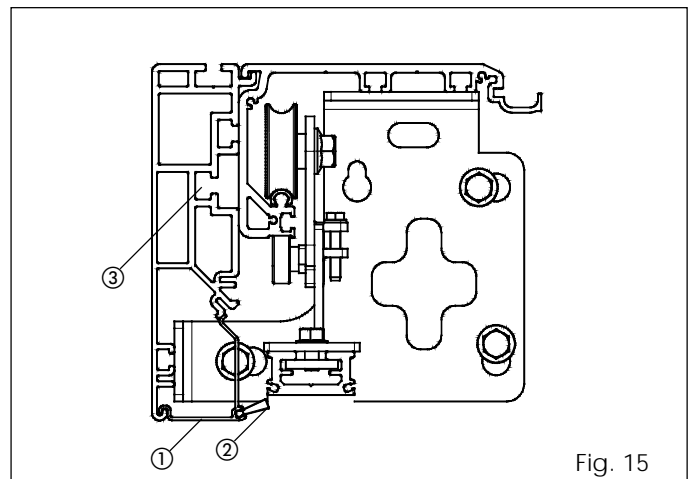

Fig. 15
- Make the holes on the free-standing profile in the position indicated in fig. 15 ref. ③.
The automation head profile with the free-standing profile can be secured at the two ends by using the side brackets accessory (fig. 15).
- If using the closing profile for a free-standing automated system, assemble it as shown in fig. 15 ref. ①.
**ATTENTION:** insert the brush (accessory fig.15 ref. ②) in the closing profile of the free-standing automated system before installing.
- Fit the side panels as shown in figures 15.